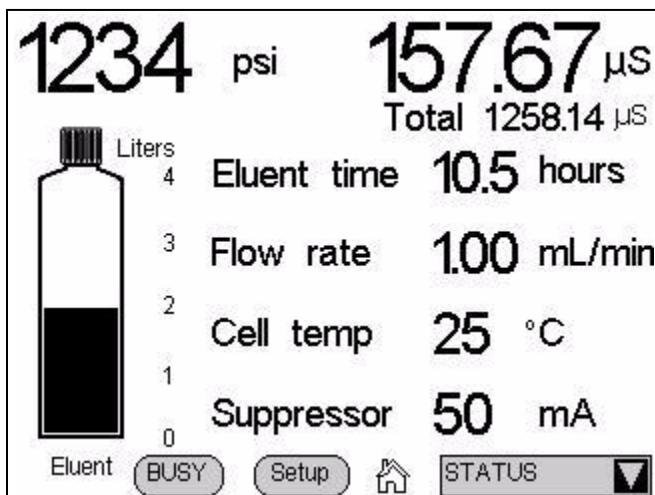

Figure C-9. Status Page
- The fields to the right of the bottle display the status of four other operating parameters. You can choose from six possible parameters to display here. Figure C-9 shows the default parameters: **Eluent time**, **Flow rate**, **Cell temp**, and **Suppressor**. To select different parameters, touch the **Setup** button. See Section C.6.1 for details about how to change the status parameters, and Section C.6.2 for a description of each parameter.